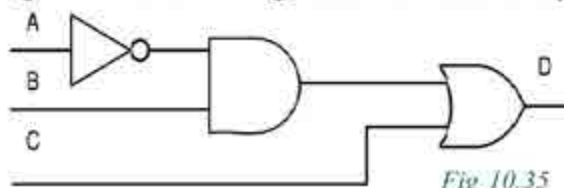

Fig. 10.35
11. Convert the logic circuit shown in fig.10.35 into a boolean equation.